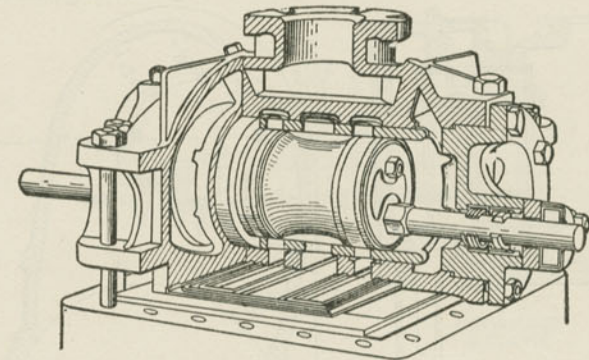

Fig. 136. Extra Piston-valve Seat.
A. This is a piston-valve arrangement for application to existing slide valve seats, saving the old valve-cylinders and frame ends. It is shown in Fig. 136, as adapted to either inside or outside admission. There is a supporting inner valve chamber jointed to the valve seat independent of the outer chest, that is seated on the cylinder apron in the usual way, thus utilizing the regular inlet port to the chest.